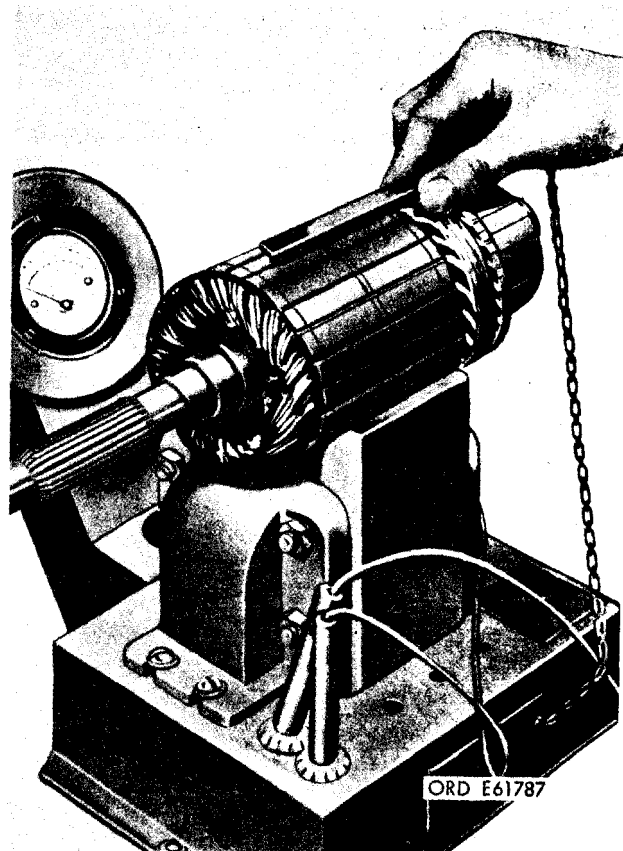

Figure 4-19. Testing armature for short circuits using growler.
(3) Inspect armature for short circuits using a growler fixture. Place the armature in the growler as shown in figure 4-19. Hold a thin strip of steel, such as a hacksaw blade, about 1/32 inch away from armature. While holding the steel strip in position, rotate the armature slowly in the growler. A short circuit will pull the steel strip tightly against the armature core and cause the strip to vibrate.